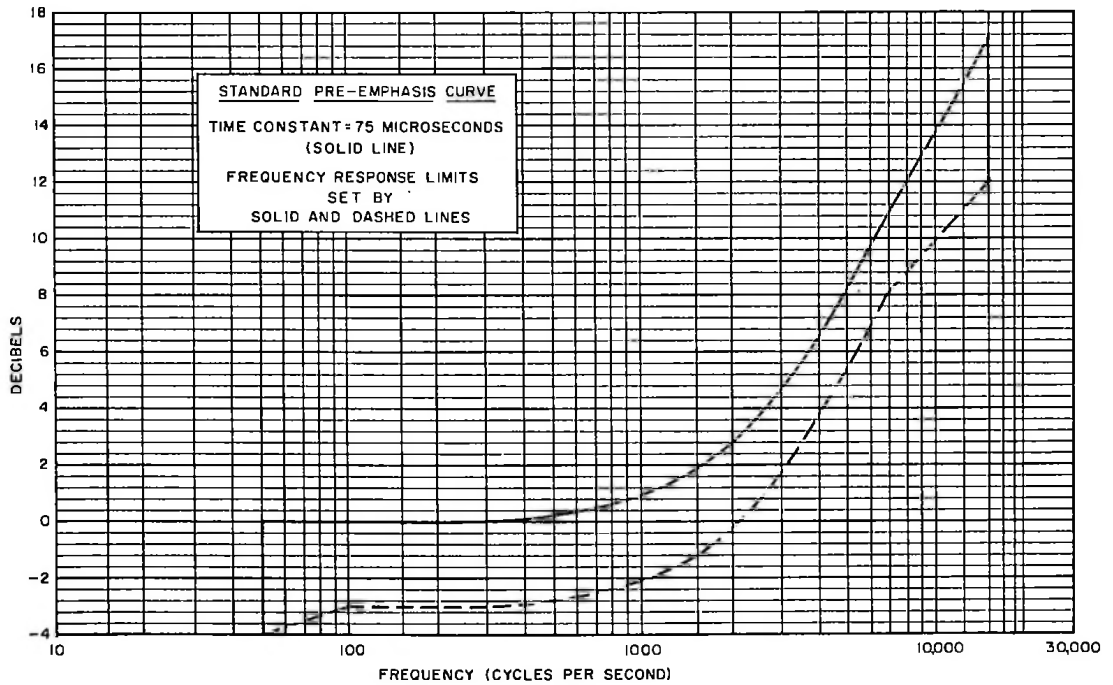

Figure 5-3. Audio Frequency Response Limits
b. Check the audio frequency response of the transmitter by modulating the transmitter at 50, 100, 400, 1000, 5000, 7500, 10,000, and 15,000 cps for 25 percent, 50 percent, and 100 percent modulation. Audio frequency response is measured by keeping the percentage of modulation constant and measuring the magnitude of audio, at each frequency given, to give the desired percentage of modulation. The audio frequency response must fall within the limits given in figure 5-3.